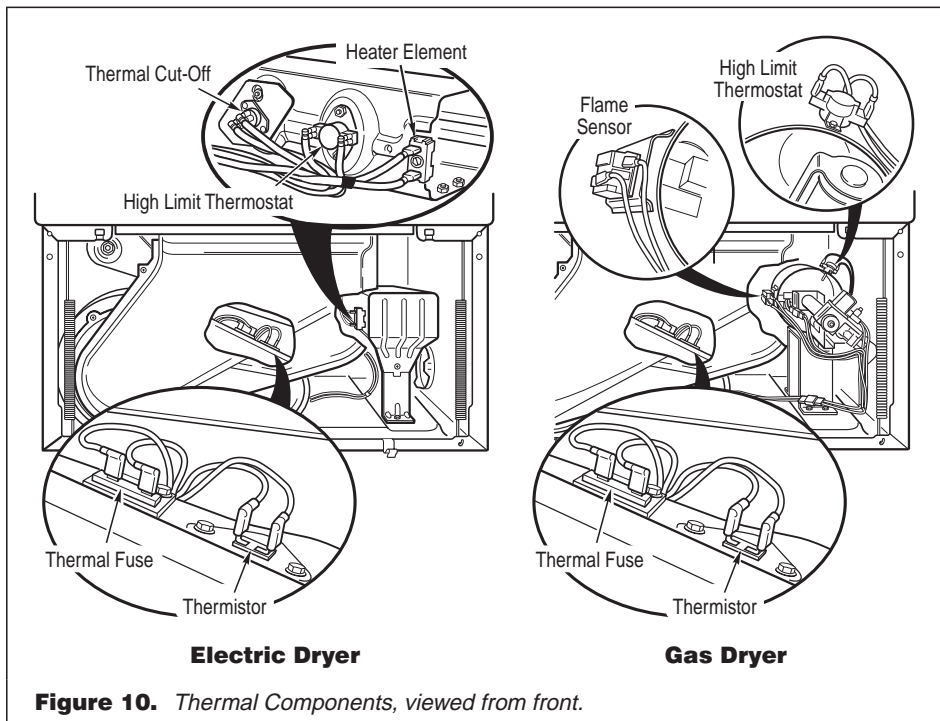

Figure 10. Thermal Components, viewed from front.
Remove the toe panel to access the thermal components. See figure 15, page 10. Locate the components for the electric and gas dryers using figure 10 below.
2. Locate the high limit thermostat. See figure 10. Measure the continuity through it by connecting the meter probes on the red wire and blue wire.
- ➔ Disconnect dryer from power. Check wire connections at the machine control electronics and thermistor. See Accessing the Machine Control Electronics on page 10, and for thermistor location see figure 10 below.
- ➔ If wire connections are good, remove the two wires from the thermistor and replace the thermistor. See figure 10. Plug dryer back into supply outlet.
2. Access the thermal fuse by first removing the toe panel. See Removing the Toe Panel, page 10, and figure 10 on page 6 for thermal fuse location.
3. Using an ohmmeter, check the continuity across the thermal cut-off. See figure 10 for location.